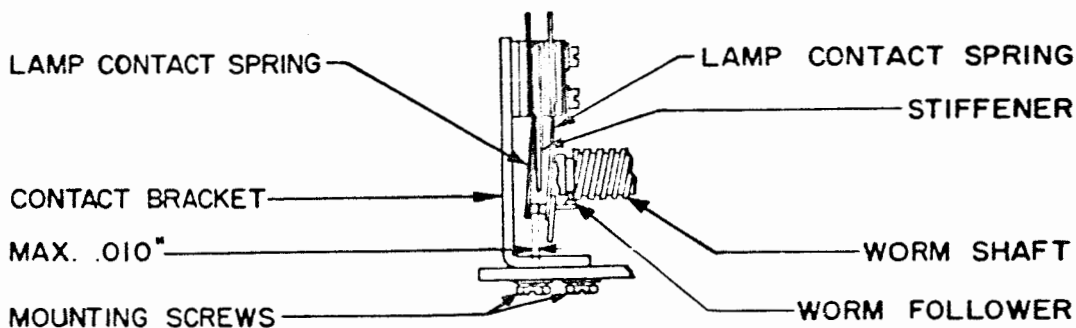

Figure 4
3.04 Contact Bracket: The front lamp-contact spring should clear the lower edge of its stiffener by not more than 0.010 inch with the lamp contacts closed and the worm follower resting in the groove at the front of the worm. (See Figure 4.)